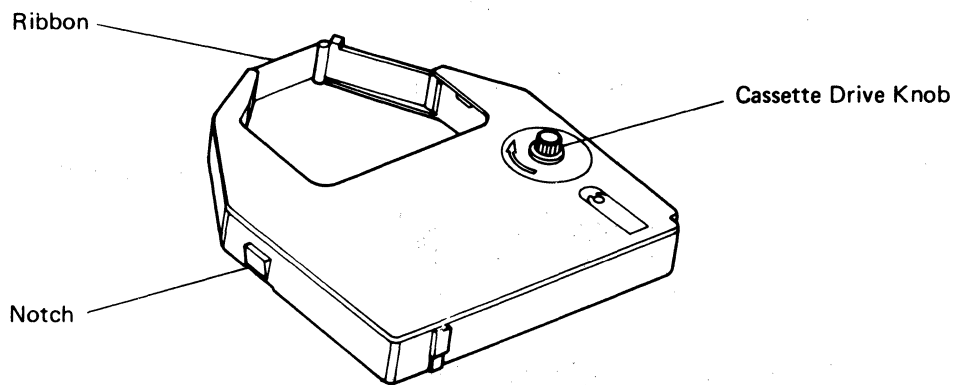
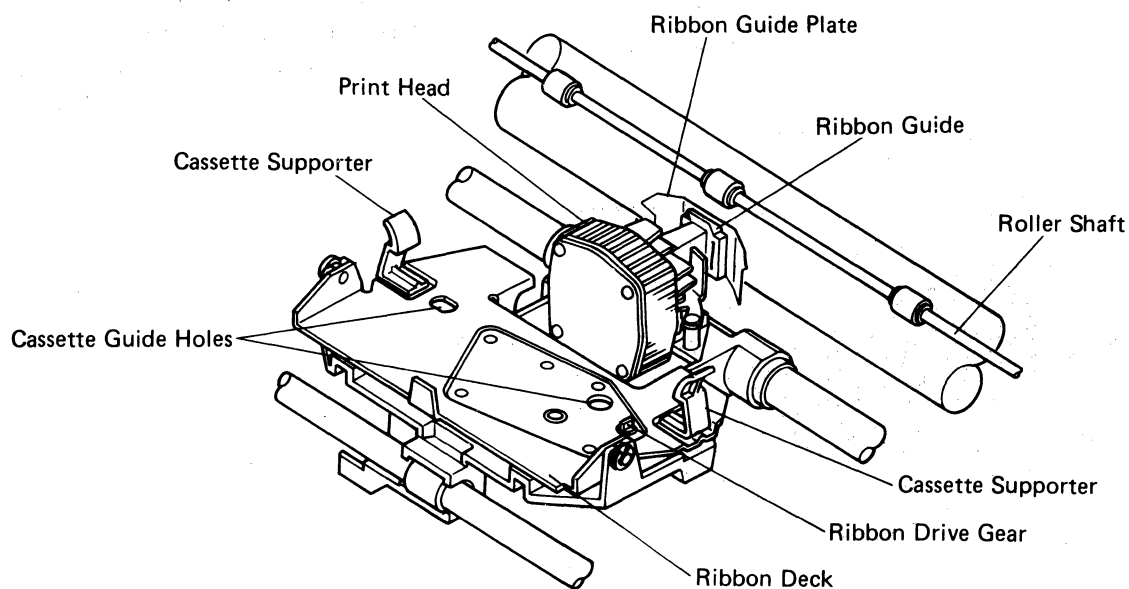

Fig. 4 Ribbon Cassette
Fig. 5 Ribbon Deck without Ribbon Cassette
- (1) Open the carrier cover.
- (2) Gently move the printer head carrier assembly to a position where no roller is fitted on the roller shaft.
- (3) To install the ribbon cassette, turn the Cassette Drive Knob in the direction of the arrow (clockwise) to tension the ribbon. (See Fig. 4.) Holding the cassette, carefully insert the ribbon end between the ribbon guide plate and ribbon guide, and push the cassette down on the ribbon deck. At this time, align the two guide projections at the cassette bottom with the cassette guide holes. Make sure that the notches on both sides of the cassette are supported completely by the two cassette supporters. If not supported by the cassette supporters (the cassette is raised), push down on the cassette while turning the ribbon drive gear clockwise. (See Fig. 5.)